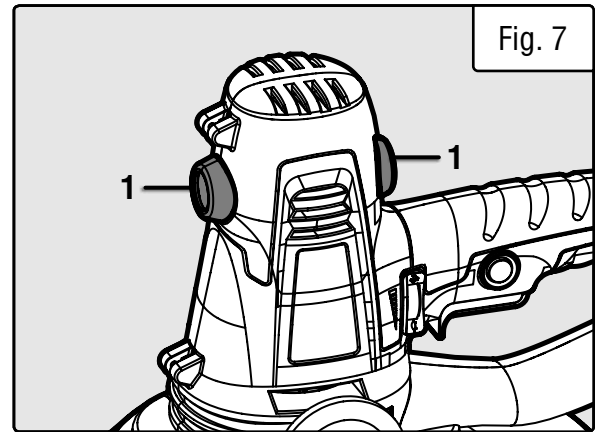

Fig. 7
1. To inspect the brushes, open the carbon brush covers (Fig. 7 - 1) by turning them counterclockwise with a flat-head screwdriver (not included).